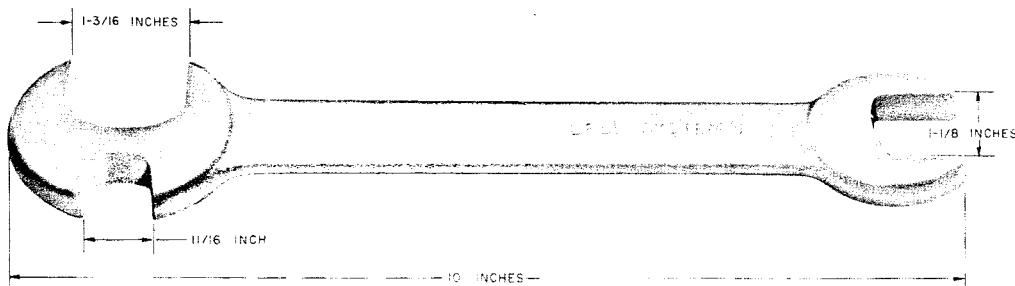

Fig. 6—C Regulator Wrench
**5.14** The open-end C Regulator Wrench is 10 inches long and has openings to accommodate 11/16, 1-3/16, and 1-1/8 inch fittings as shown in Fig. 6.